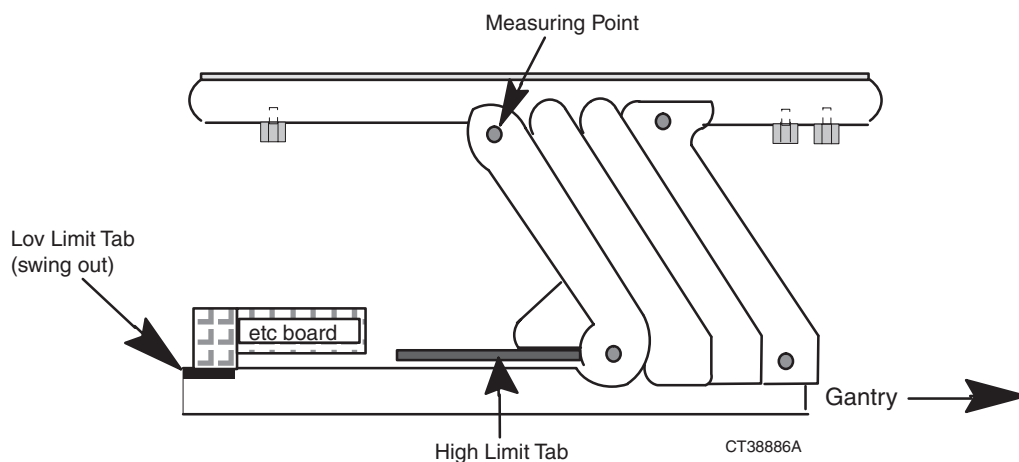

Figure 7-5 Measure Table Elevation Distance
- b.) Measure between the bottom surface of each measurement block and the center of the rear leg upper pivot pin (see Figure 7-5).